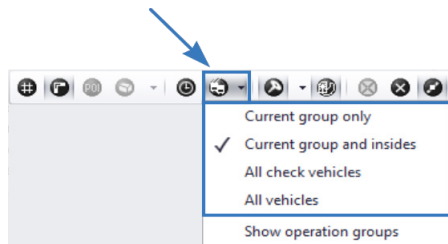

**Fig. 81. Save and open track.**
- Commands in the “Save and open” section allow exporting track to .kml and .plt formats and opening it after saving (**Fig. 81**). To open the track, the respective software must be installed in the computer: for opening .kml format – the Google Earth program, for opening .plt format – the OziExplorer program.